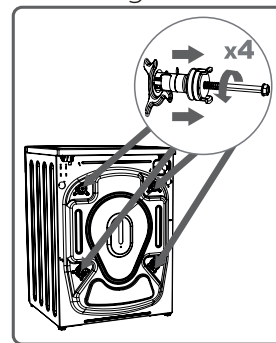

Fig 3
**2:** Remove the bolts by pulling them. (Fig 3)